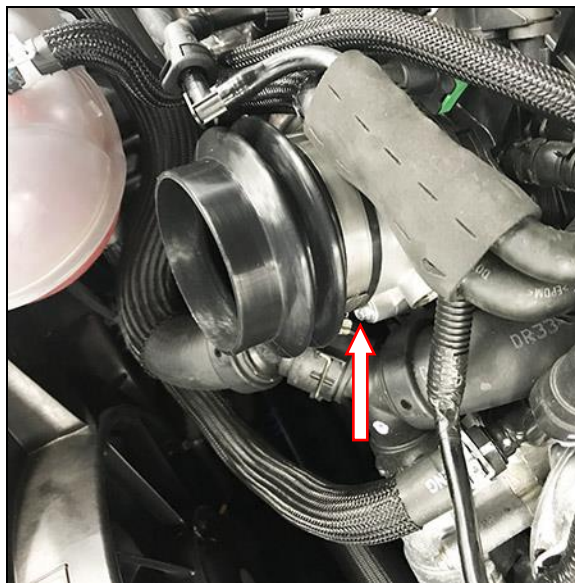

Figure 6
16. Install the silicone coupling and (x1) provided clamp to the throttle body. Tighten the clamp (**Figure 6**).